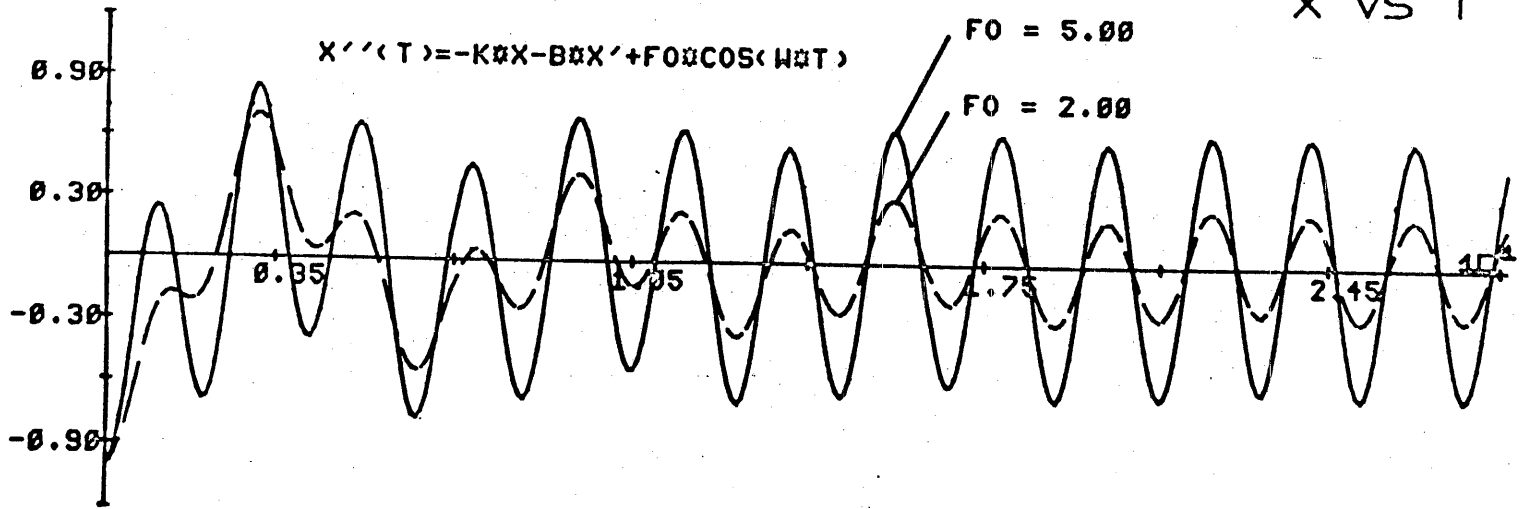

Figure 13
5. Damped driven oscillator (Figure 13).